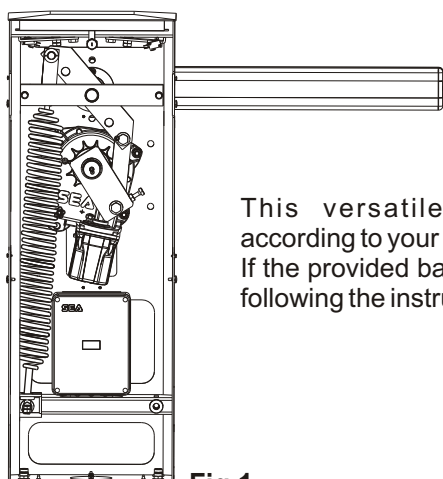

Fig.1
N.B.: The operator comes as shown in Fig.1
Barrier with right hand closing (Fig.1)